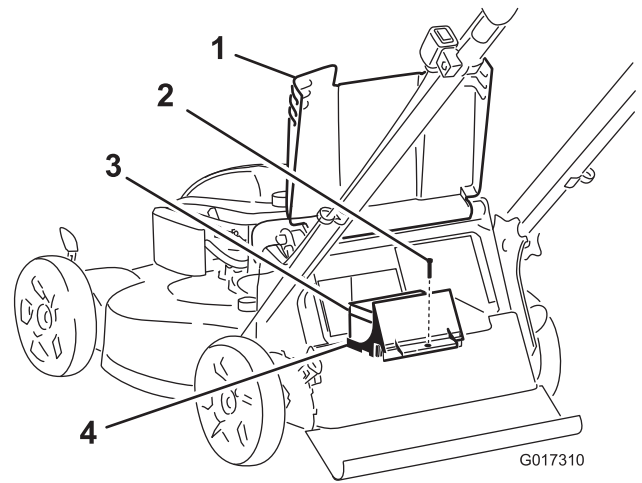

Figure 24
1. Raise the rear deflector and locate the battery compartment (Figure 24).